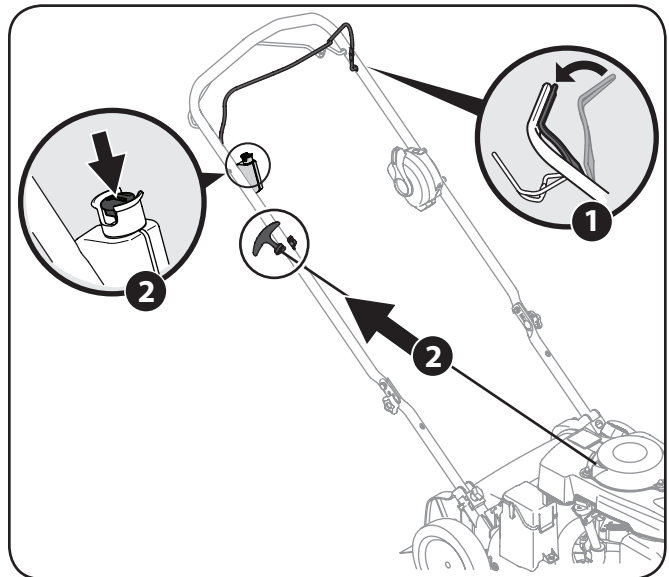

Figure 5-4
1. Standing behind the mower, depress the blade control handle and hold it against the upper handle. See Figure 5-4.
Electric Start: Insert plastic push key into starter button until it snaps in. Push the electric starter button to start the engine. See Figure 5-4.